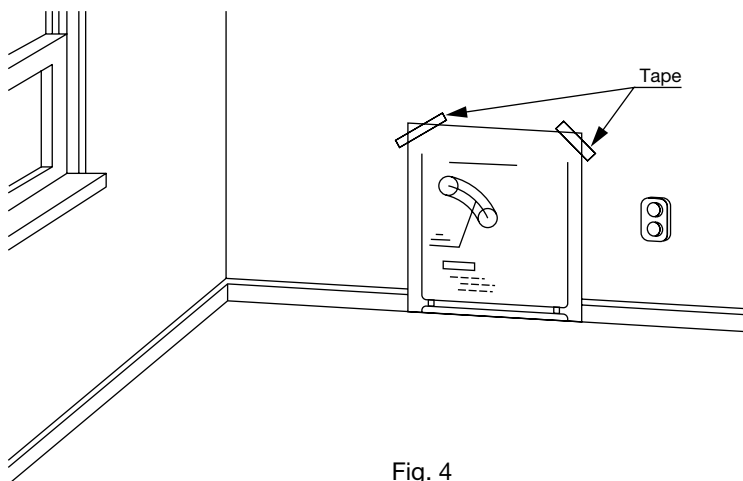

Fig. 4
3. For standard installation, use the template enclosed with the heater to position the hole for the flue pipe. Tack or tape template to the wall at the desired position (See Fig. 4).